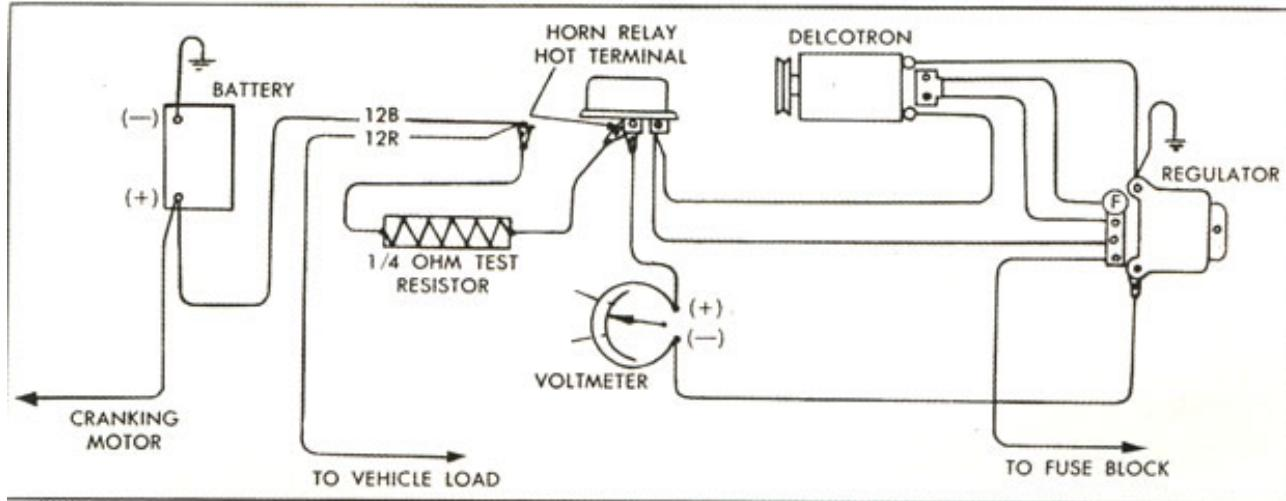

Fig. 2—Voltmeter and Resistor in Circuit for Regulator Voltage Adjustment
5. Connect a  $\frac{1}{4}$  ohm (25 watt) fixed resistor into the charging circuit at the hot terminal of the horn relay (Figure 2).